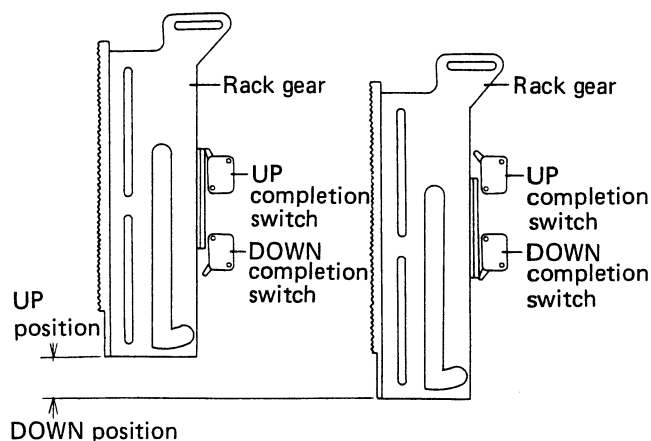

Fig. 6-4 Rack gear position
- Projection (A) of the slide base presses the upper side actuator (leaf spring) ON.
- Projection (B) of the slide base presses the lower side actuator (leaf spring) OFF.
- At the playback position, the UP or DOWN operation is shown in Fig. 6-4. When the UP completion switch is ON, and the DOWN completion switch is OFF, elevation is in an UP status. In this status, when the arm elevation switch is pressed DOWN, the slide base drive motor rotates in a forward direction.